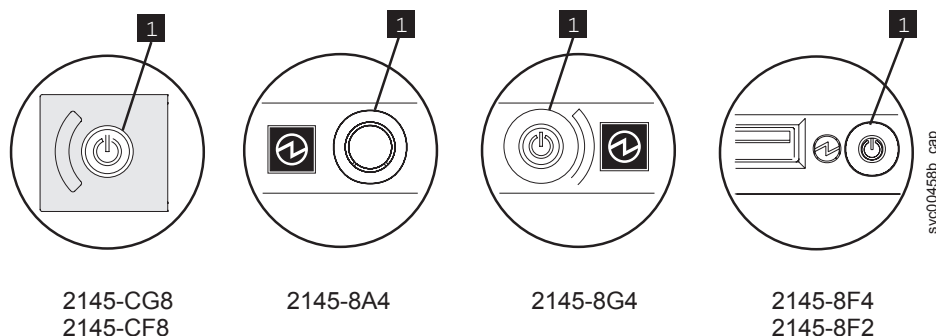

Figure 89. SAN Volume Controller models 2145-CG8, 2145-CF8, 2145-8A4, 2145-8G4, and 2145-8F4 or 2145-8F2 power-control button
3. Press and release the power-control button **1** shown in Figure 89 on page 107 for SAN Volume Controller models 2145-CG8, 2145-CF8, 2145-8A4, 2145-8G4, and 2145-8F4 or 2145-8F2. Wait one minute for the SAN Volume Controller to turn off. Ignore a missing node error code if displayed by other nodes in the cluster. When maintenance procedures are completed, the error will resolve itself.